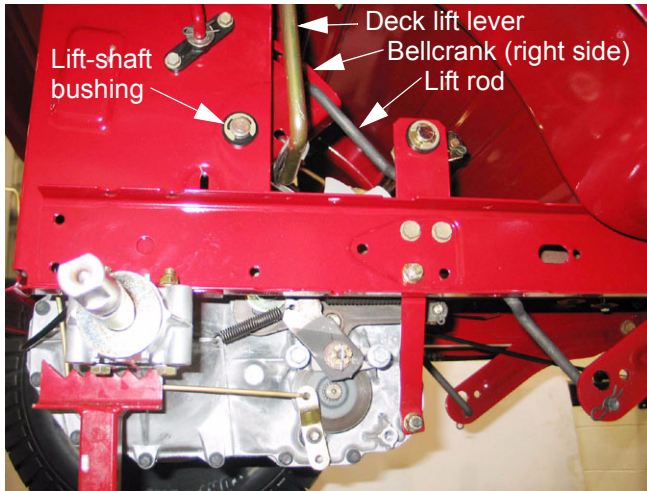

Figure 5.2
- 5.2. The deck lift control, located on the right fender, rotates a cross-shaft and two slotted bell-cranks (lift shaft assembly) that draw up and back on the deck lift rods. See Figure 5.2.